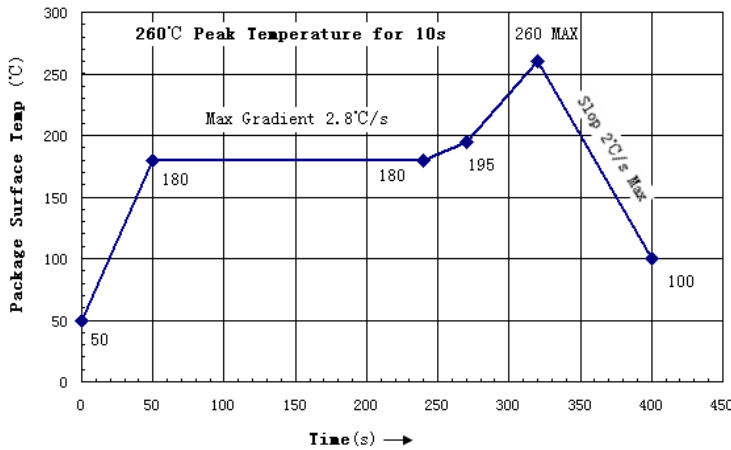

Figure 8
- ♦ Figure 8 is the reflow profile for Pb free process